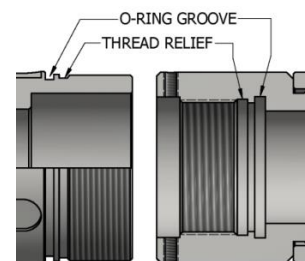

Fig. 2
**CAUTION6:** To ensure tool operates properly, install o-rings in o-ring grooves NOT thread relief (Fig. 2).